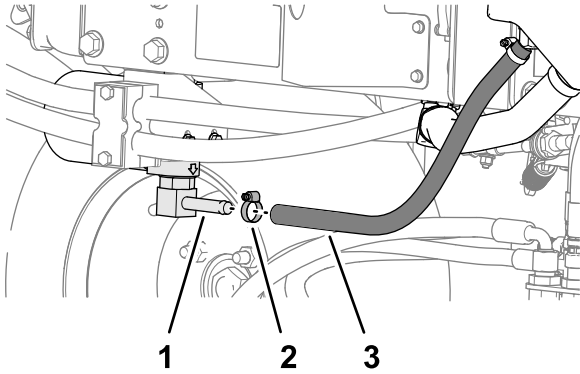
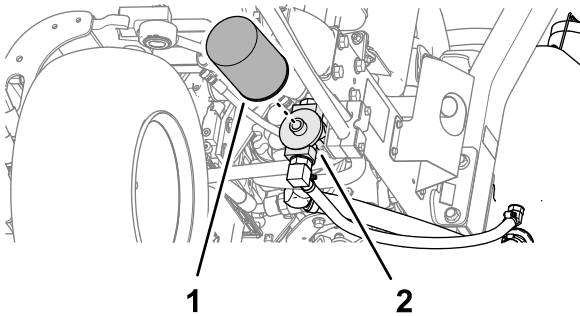

Figure 88
Figure 89
2. Disconnect the hydraulic hose (Figure 88) or remove the hydraulic filter (Figure 89) and drain the hydraulic fluid into a drain pan.